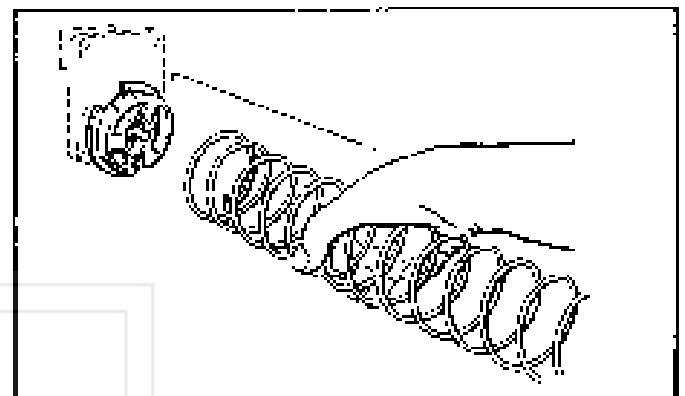
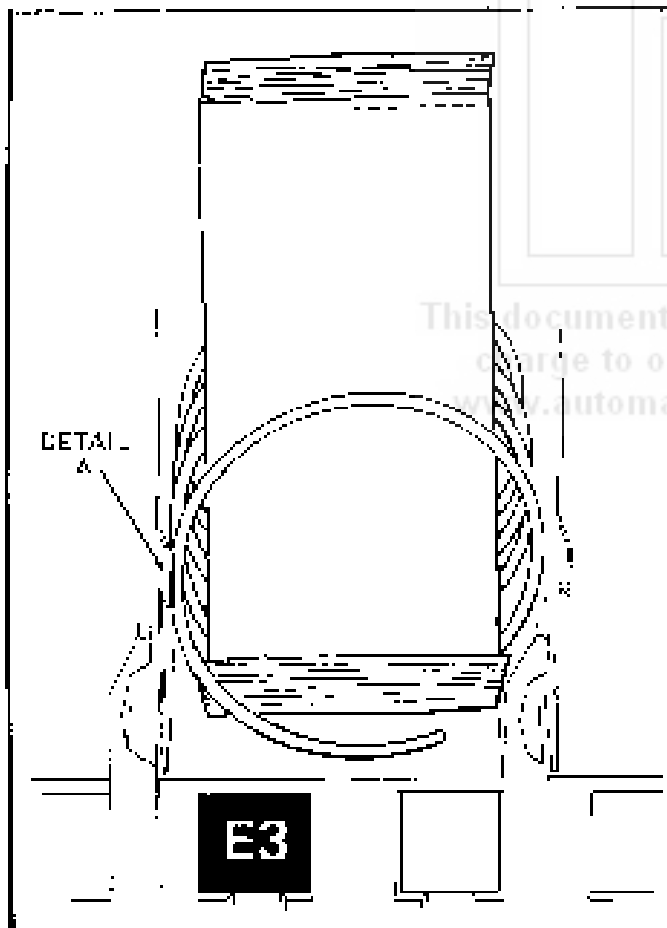

Figure 3. REMOVING AND INSTALLING SPIRAL.
Figure 5. PLACEMENT OF PRODUCT ON MAIN PRODUCT CANDY SHELVES AND FRONT END POSITION OF SPIRAL.
5. **REMOVAL OF SPIRAL:** Grasp the front of the spiral and turn it clockwise. Lift the spiral up and off of the spiral lock. When replacing a spiral attach it around the tab on the spiral lock and turn the spiral to interlock-wise to lock it in place. Be sure the front end of the spiral is positioned properly (with the front end of the spiral pointing downward on the left side) (see Figure 3). The spiral lock is attached between the spiral retainer tabs. Give a light forward pull on front of the spiral to check if it is locked in place.
7. **LOADING MAIN PRODUCT CANDY SHELVES:** The 10-selection (candy type) shelves are loaded similar to the 5-selection shelves except that the bottom of the product sits on the shelf in front of the spiral wire (see Figure 5) that rests on the shelf. These products must load properly in the spiral space; do not force product into spiral.
These spirals are removed and installed the same as the large spiral (see Figure 3), except that the front end position is different (approximately 5 o'clock) (see Figure 5) and the front left side of the spiral must be behind the small 100 spacer on the left side of the product space side wall (see Figure 5, Detail A).